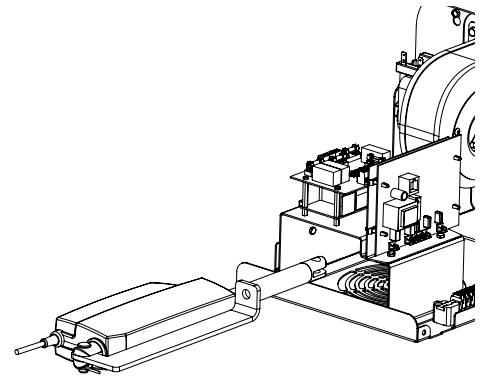

Fig. 28 Removing the actuator with its supporting leg from the burner.
6. Now, because the lid of the burner does not obstruct the actuator anymore, you can take the actuator out through the existing opening in the electrical components bracket (Fig. 28). Before pulling it out, do not forget to disconnect its wires from the relay unit;